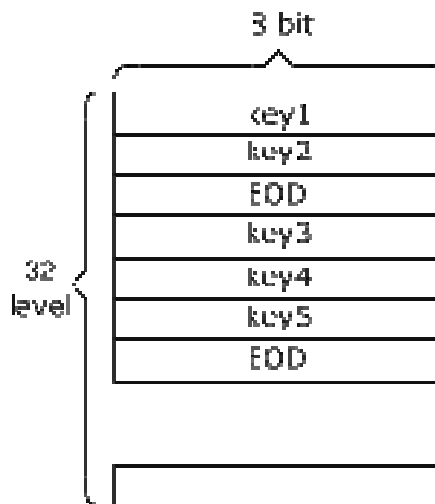

Figure 12-6 Key FIFO
There is a 32-level key FIFO in the keyscan controller. The scanned keys and an EOD are stored to the key FIFO serially in every key event. For example, if key1, key2 are pressed, key1, key2 and EOD247 will be stored in the Key FIFO. This is shown in Figure 12-6. Host can process these keys depending on different type of EOD.